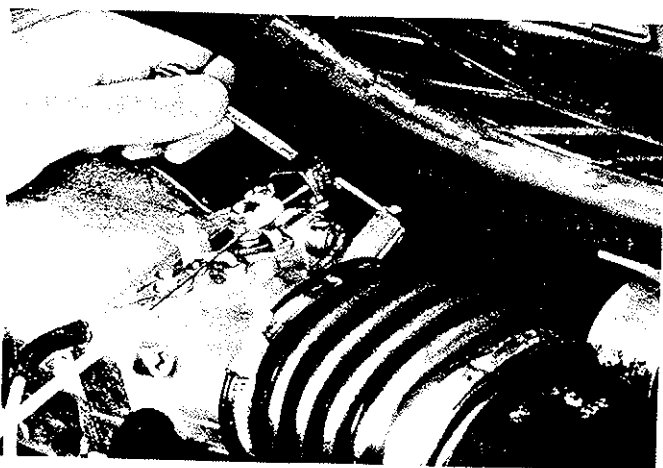

Fig. 7-2. Adjust idle rpm at bypass screw on throttle body.
**Idle Adjustment.** Using a tachometer, check the idle rpm with the engine warm. The idle-speed screw shown in Fig. 7-2 adjusts the amount of air bypassing the closed throttle. It's easy to adjust idle rpm because it doesn't depend on the mixture adjustment.